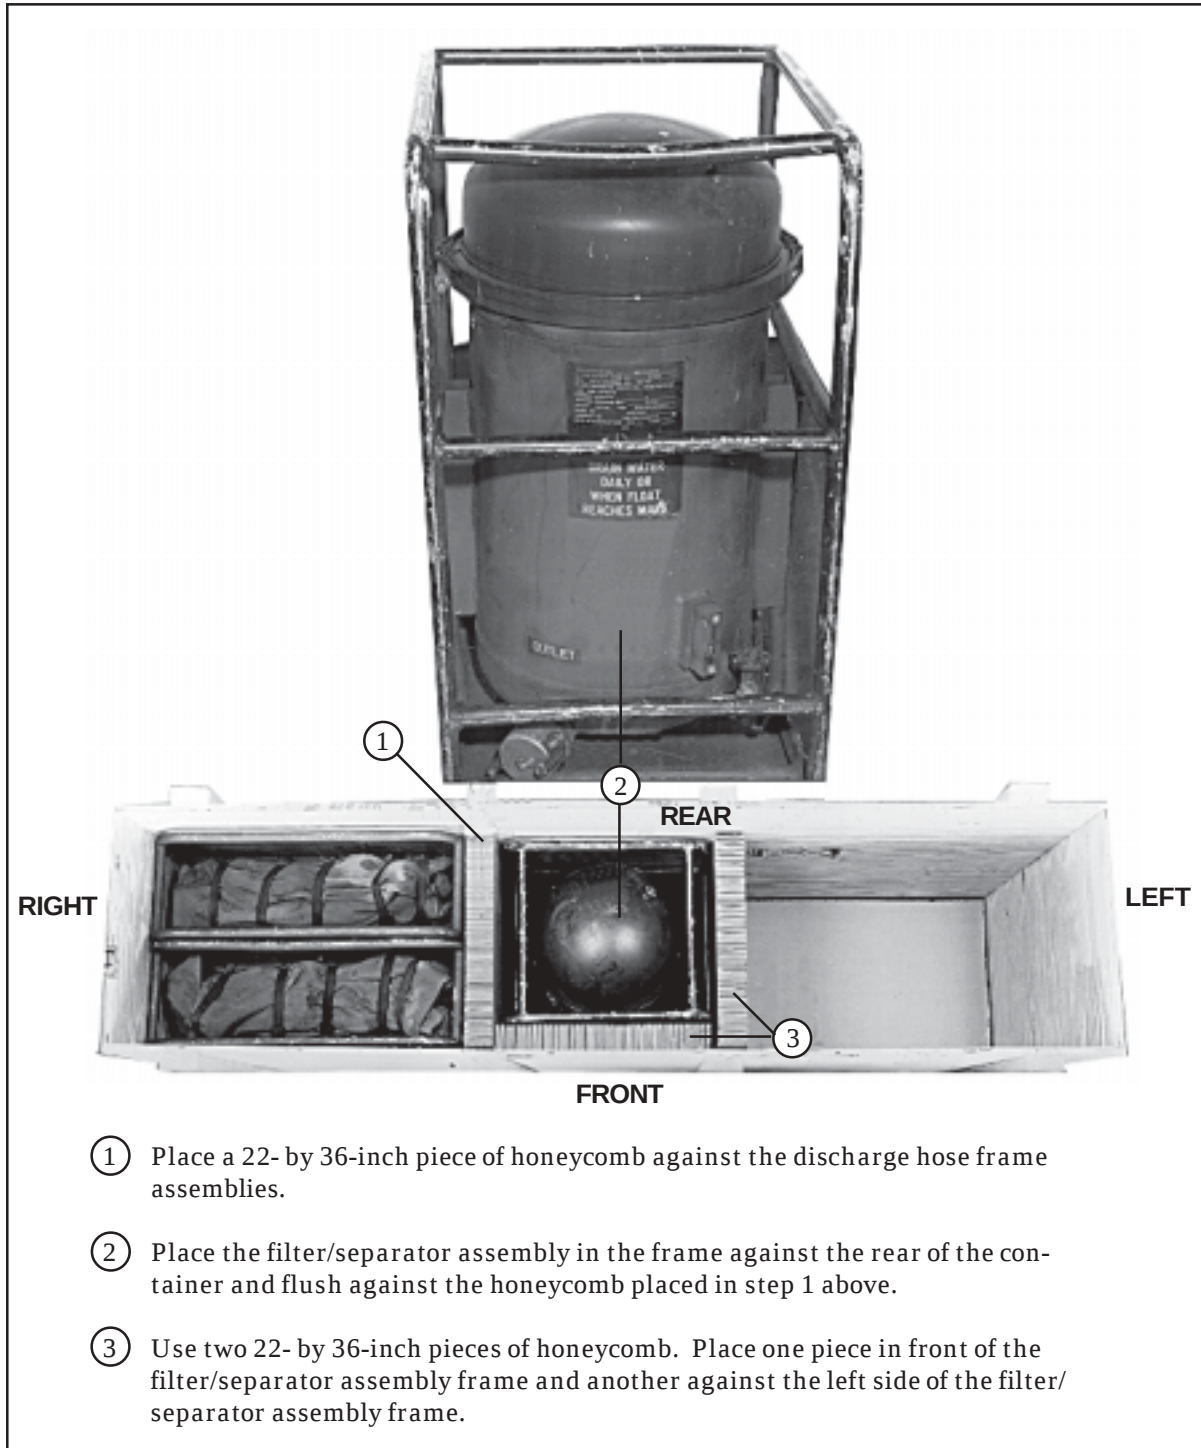

Figure 1-8. Filter/Separator Assembly Prepared and Stowed
b. PREPARING FILTER/SEPARATOR ASSEMBLY. Prepare the filter/ separator assembly and stow it in the container as shown in Figure 1-8.